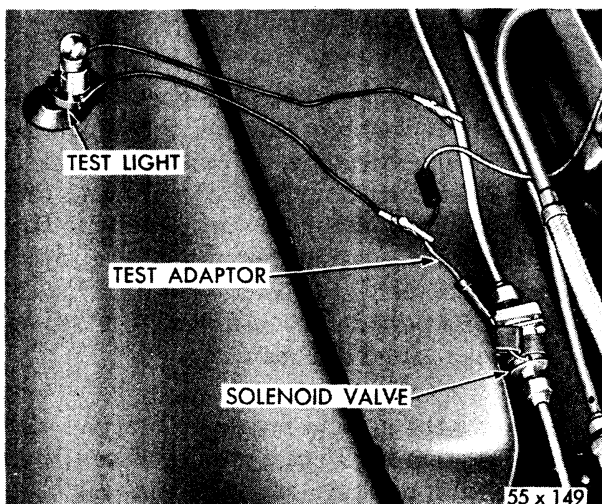

Fig. 6—Thermal Switch and Solenoid Valve (Test Adaptor Connected)
The thermal switch, shown in Figure 6, is attached to the suction pressure line at the evaporator outlet manifold. The electrical contacts in the switch are connected in series with the temperature control switch and the solenoid by-pass valve winding. In the normal position the contacts are closed. A decrease in the temperature of the refrigerant gas leaving the evaporator, will cause the thermal blade to bend and open the electrical circuit to the solenoid valve when the temperature reaches approximately 25 degrees F. Opening the solenoid valve allows a charge of hot refrigerant gas to flow into the evaporator. When the temperature increases again to approximately 40 degrees F, the contacts close and the solenoid will energize, closing the by-pass valve.
- (1) Disconnect the Wade connector at solenoid valve and insert special adaptor, as shown in Figure 6, in series with disconnected connector and Wade terminal.
- (3) Connect lead from test lamp (Tool C-744) to adaptor and ground the remaining test lamp lead to a good clean ground.
- (4) Place test lamp suction cup on fender so light is visible from right rear of car, as shown in Figure 6.
- (5) With engine running at 1200 rpm. turn the blower control knob to "Low" speed and the temperature control to "Cold." Close all car windows, doors and cowl ventilator.